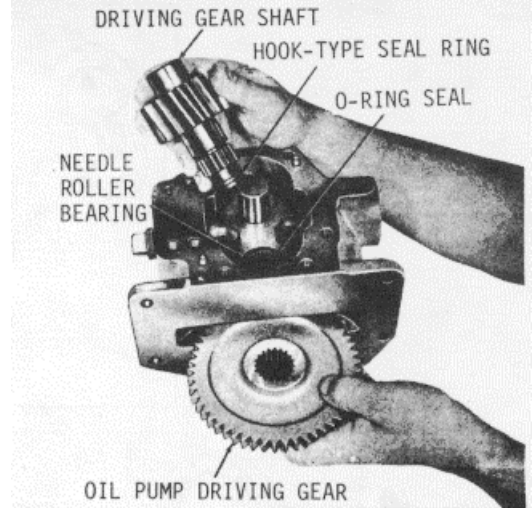

Fig. 30
- (h) Remove the hook-type seal ring from the shaft gear (Fig. 30).
- (i) Do not remove the O-ring seal or needle roller bearing from the oil pump housing unless replacement is necessary (Fig. 30). If necessary,
- (c) Install the hook-type seal ring onto the pump drive shaft gear (Fig. 30).
- (d) Install oil pump driving gear and while holding it in position, install the driving gear shaft (Fig. 30).